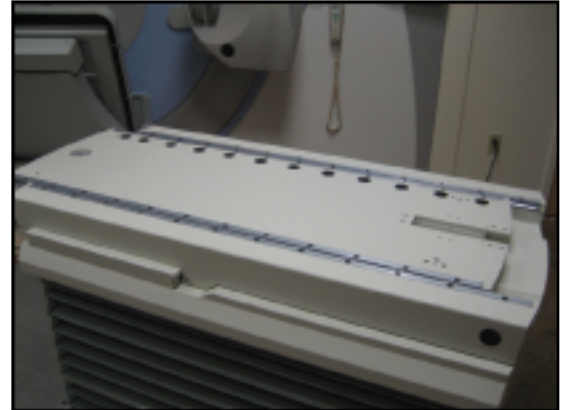

Fig. 8
2. The Elekta Precise® cradle should now look like Fig. 8